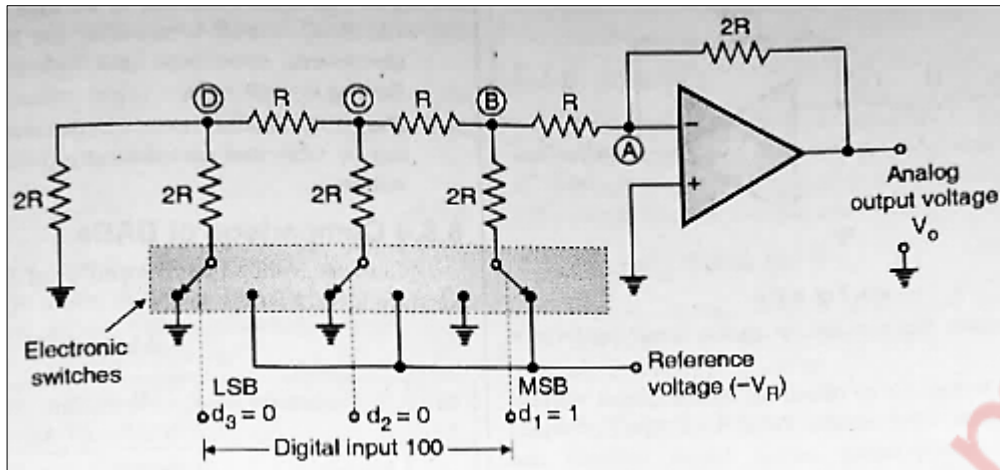

Fig.2 : R-2R ladder DAC
The circuit diagram for R-2R ladder type DAC is shown in fig.2 It shows that only two values of resistors are required namely $R \Omega$ and $2 R \Omega$.
This method is therefore suitable for the realization of Integrated Circuits (IC). The value of R in Fig.2 can be anywhere between 2.5 k Ω to 10 k Ω but it should not be less than 2.5k Ω .